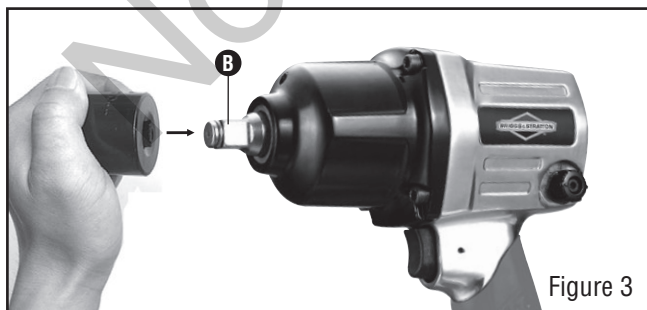

Figure 3
3. Choose the correct impact socket (not provided) as needed and mount it onto the anvil (B). (See Figure 3)